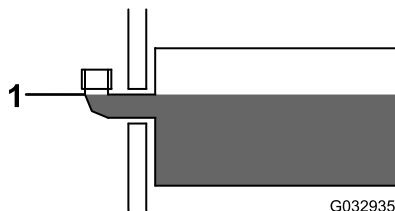

Figure 30
3. Remove the fill cap from the hydraulic reservoir (Figure 30).
4. Slowly fill the reservoir with BOSS high-performance hydraulic fluid to the bottom of the fill elbow (Figure 30).